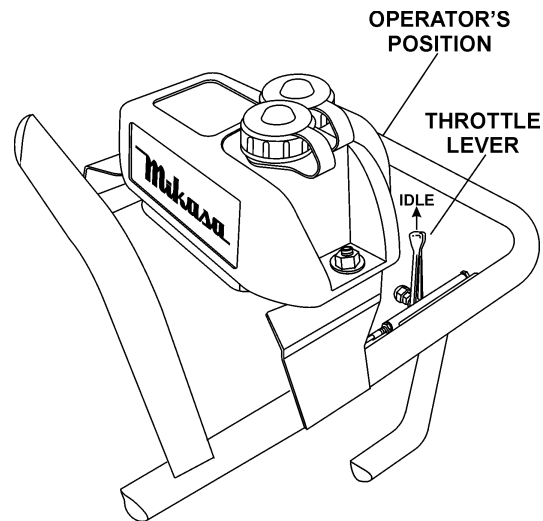

Figure 8. Throttle Lever (Idle)
3. Move the throttle lever to the "IDLE" position (Figure 8).